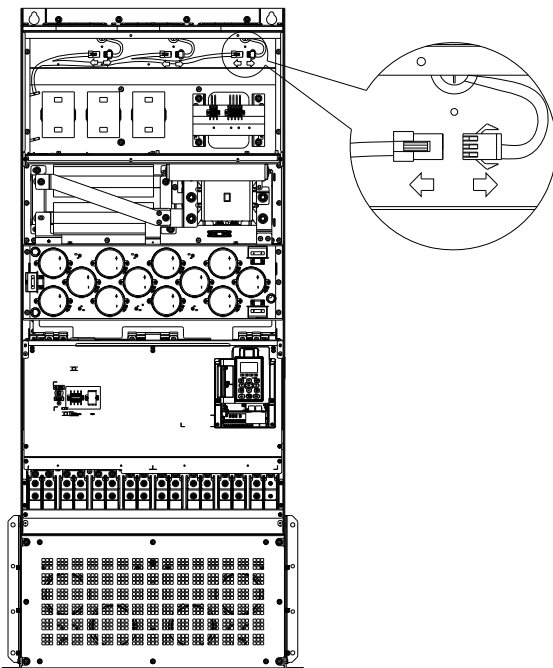

Figure 3
- Disconnect the fan (figure 3).